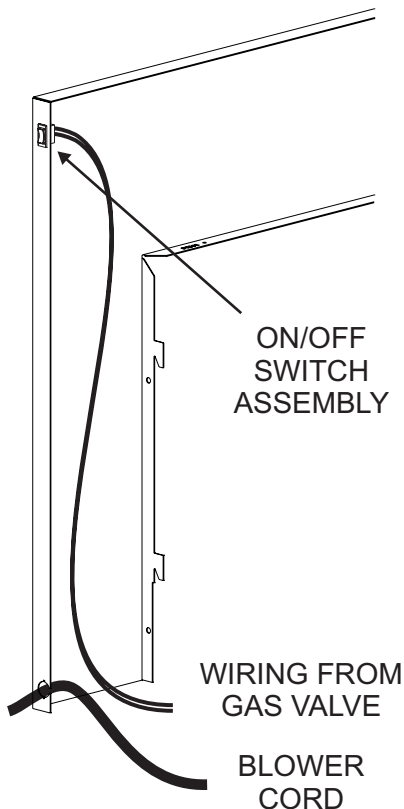

Figure 18
3. Run the low voltage alternate switch wires to the right of the surround panel. Use the top knockout location. Then secure the wires with wire clips provided. **See Figure 18.**